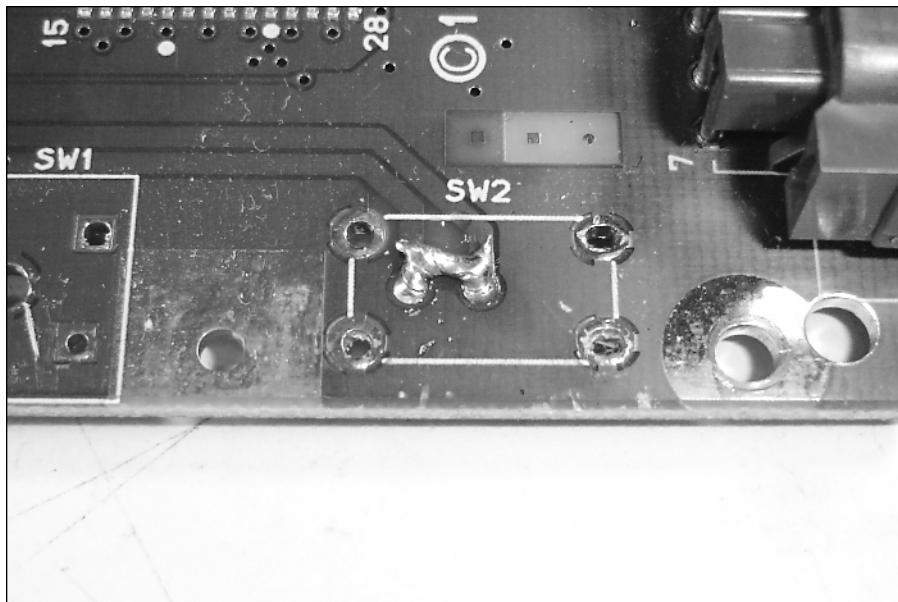

FIGURE 9-7: Jumping the power switch to be always “on.”
2. Put a bit of solder between the switch contacts on the front of the board as seen in Figure 9-7. (You may want to use a short bit of paper clip.) This sets the SNES switch to a permanent “on,” allowing you to turn the system on and off together with the rest of a portable’s guts (such as the screen). Note that there is a little bit of green between the two contacts. This is the ground — try not to hit it with the solder, because this will short out the system.